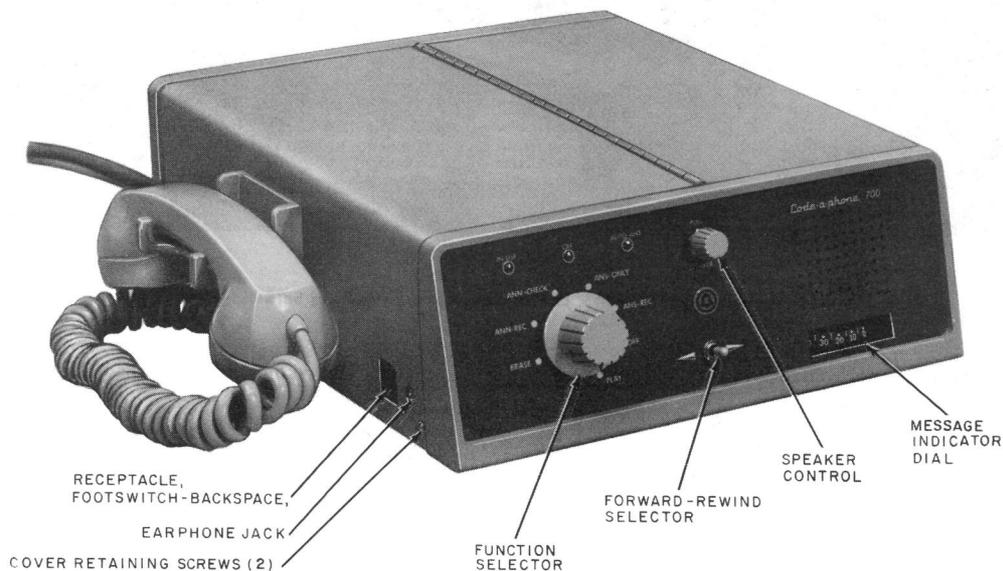
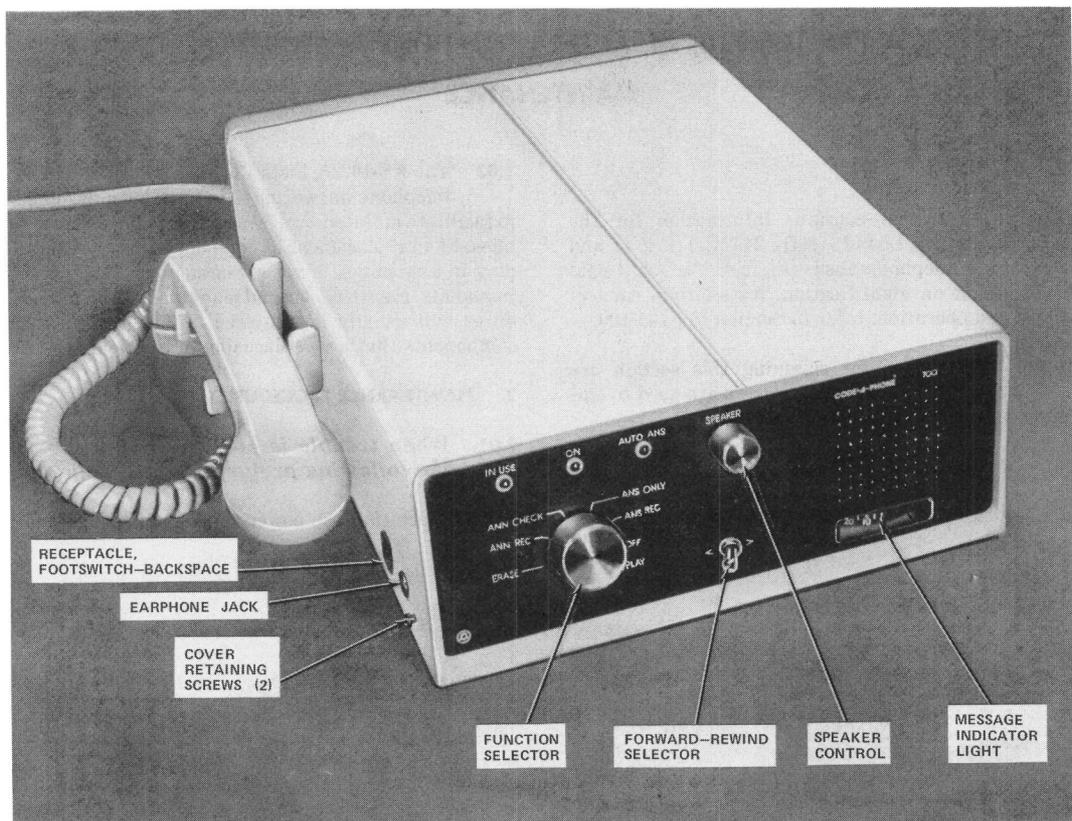

Fig. 1—KS-19245, Lists 13 (MD) and 24 (MD) Telephone Answering Set
Fig. 2—KS-19245, List 26 Telephone Answering Set
1.01 This section contains information for the KS-19245, Lists 13 (MD), 24 (MD) (Fig. 1), and 26 (Fig. 2) telephone answering set. For additional information on identification, installation, connections, and operation, refer to Section 514-155-100.